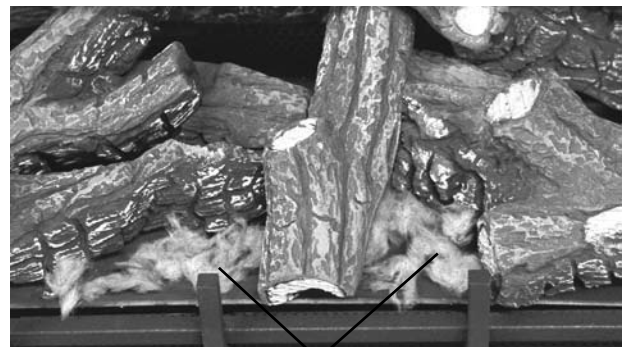

Figure 29
8. Place the glowing embers on the burner as shown in **Figure 29**.
IMPORTANT: The quantity and placement of the ember material can affect insert performance therefore it is very important that it be placed as shown in **Figure 29**.